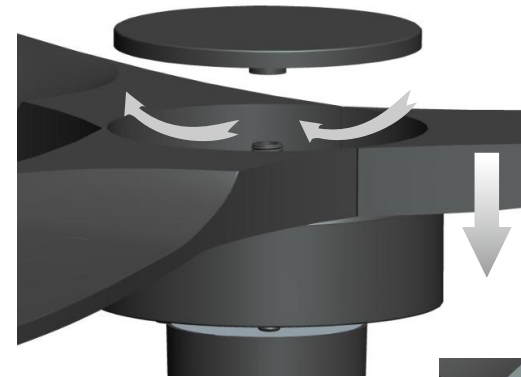

Fig 2.1
2.1 Align the decorative cover slot with the slot of the motor, and turn it clockwise to securely lock into the motor as shown in Fig 2.1.